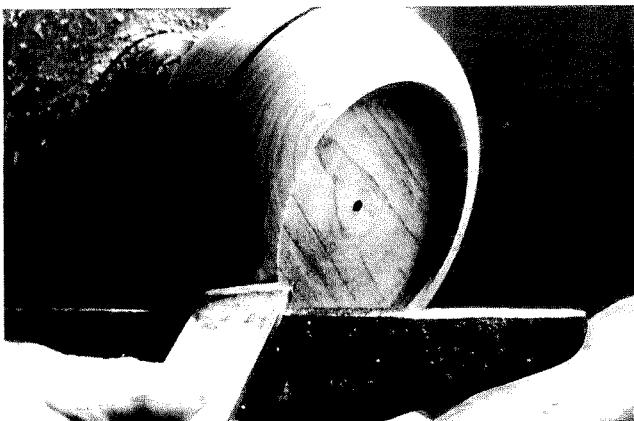

FIGURE 10-2B
- 8** Use the gouge and skew chisel to round over the edge so you have a radius curve of about $\frac{7}{8}$ " (Fig 10-2b).